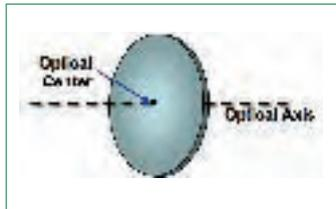

FIG. 5
The optical center (OC) of the lens is located on the optical axis (Fig. 5). The OC is the point on the lens where there is no prism. At all other locations, light is bent and therefore at that point, has a prism value.